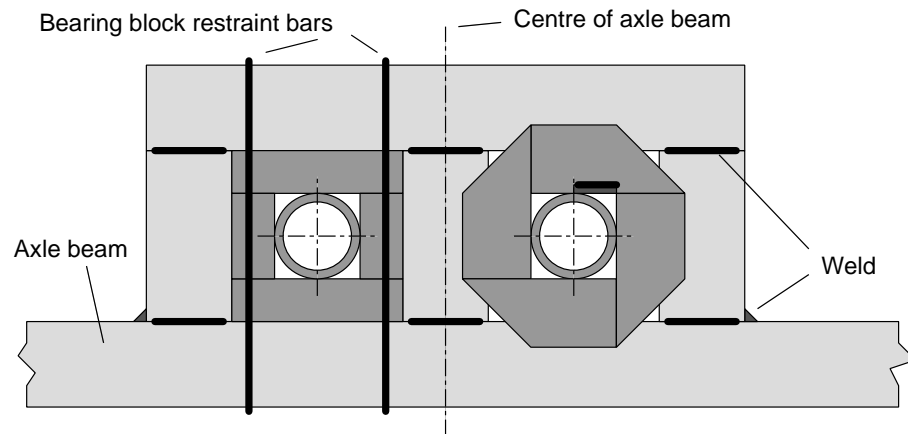

Figure 11: axial bearing washer.
- 8) Fit the bearing blocks and fix them in place with loops of 8 to 12mm round bar as shown in Figure 1 and Figure 11.